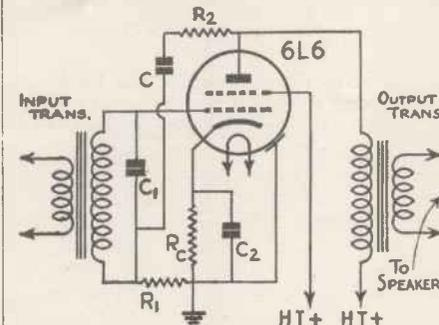

Fig. 4a. Inverse feed back for a single valve.
The circuits of a practical single valve and of a push-pull amplifier using partial inverse feedback to reduce the internal impedance of the valve are shown in Figs. 4a and 4b, respectively. Resistors ( $R_1$ ) and ( $R_2$ ) and condenser ( $C$ ) are connected in series; the combination is connected from the anode of each valve to ground. Nearly all the a-c voltage developed across the load appears across  $R_1$  and  $R_2$ , when the capacitance of  $C$  is high. Of this voltage, that due to  $R_1(R_1 + R_2)$  is applied in series with the input-signal voltage; this ratio is defined as the percentage degeneration ( $n$ ). With any percentage degeneration, the valve acts as though shunted by resistance  $1/(n g_m)$  where  $g_m$  is the transconductance of the
uits of Figs. 4a and 4b offer certain advantages, the following precautions should be observed in the design and use of these circuits in order to avoid the possibility of instability, oscillation, or a marked divergence from expected results.
(1) A conventional resistance-coupled input circuit cannot be used with this type of degenerative circuit, because the input-signal voltage must be in series with the feedback voltage for proper operation.
(2) It may be desirable to connect small fixed condensers ( $c_1$ ) across each secondary of the input transformer in order to avoid the possibility of oscillation due to leakage inductance and shunt capacitance in the input transformer circuit. It is advisable to determine by test whether or not these condensers are necessary.
(3) The blocking condensers ( $C$  in Figs. 4a and 4b) should be placed between  $R_1$  and  $R_2$  as shown. When placed between  $R_2$  and anode, the cir-
VALUES FOR FIGS. 4a AND 4b.